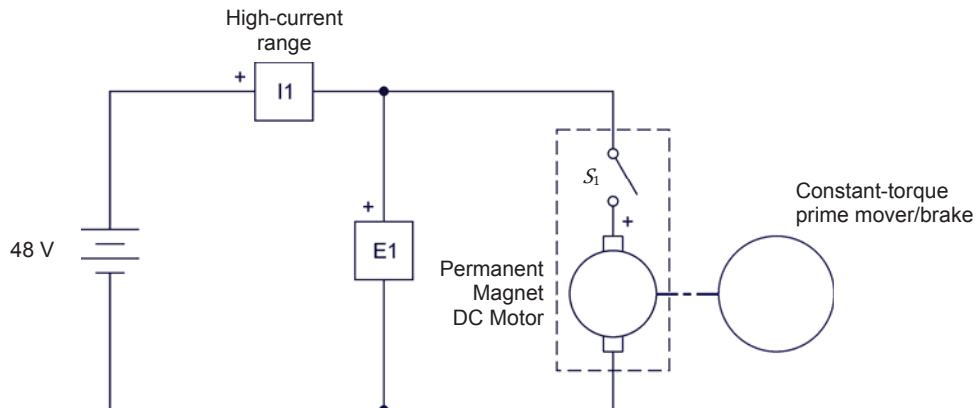

Figure 46. Setup used to plot the torque-versus-current and speed-versus-torque characteristics of a permanent magnet dc motor operating as a motor.
19. Connect the equipment as shown in Figure 46. Use the high-current (40 A) terminal of input *I1* on the Data Acquisition and Control Interface (DACI).